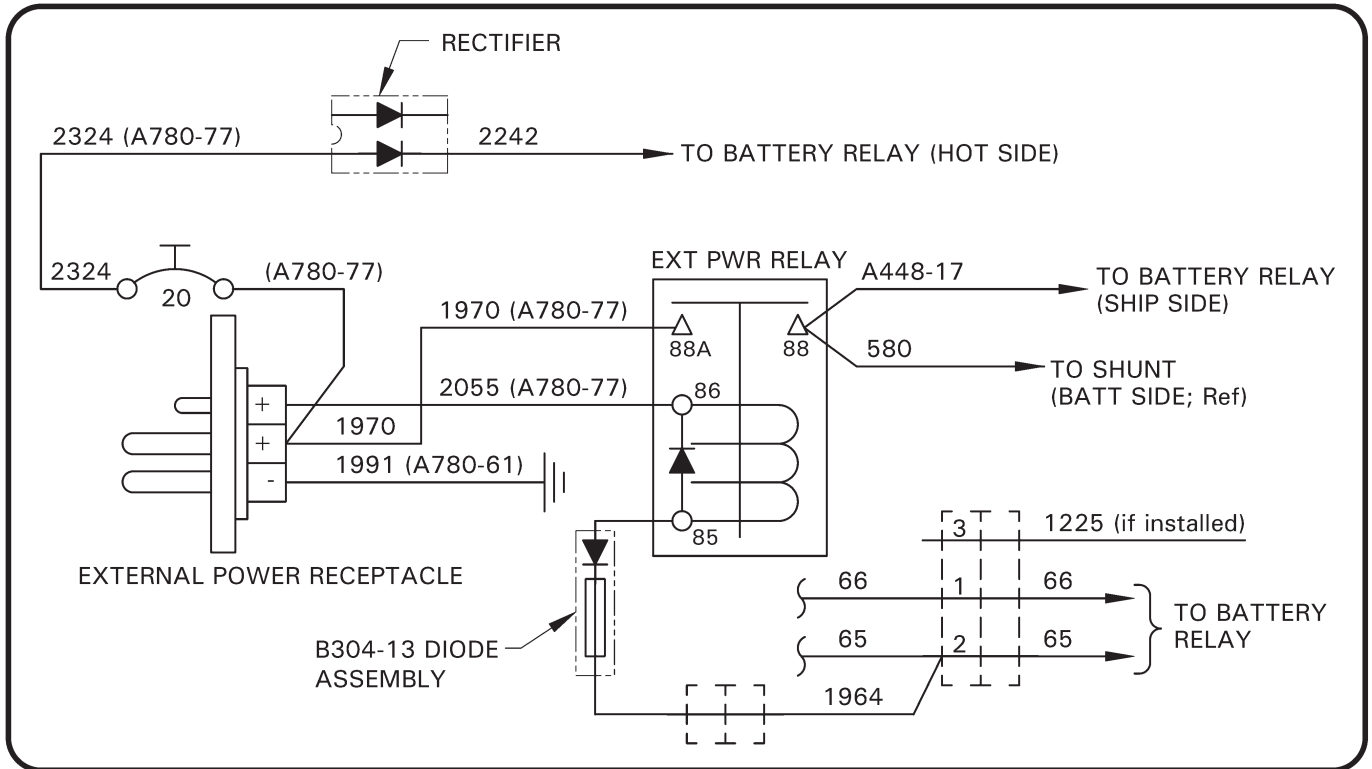

FIGURE 6 Schematic
23. Refer to Figures 6 and 7, as applicable. Verify installed wiring matches schematic.